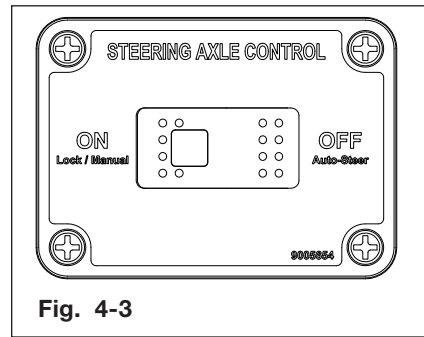

Fig. 4-3
1. Make sure the steering axle control switch is in the ON position. (Fig. 4-3)